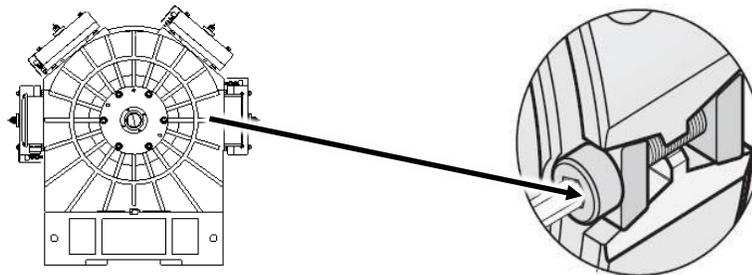

Figure 23
1. Loosen the encoder locking screw M2.5, as shown in Figure 23 with hex wrench (2 mm) through the encoder cover hole. The screw does not need to be removed.